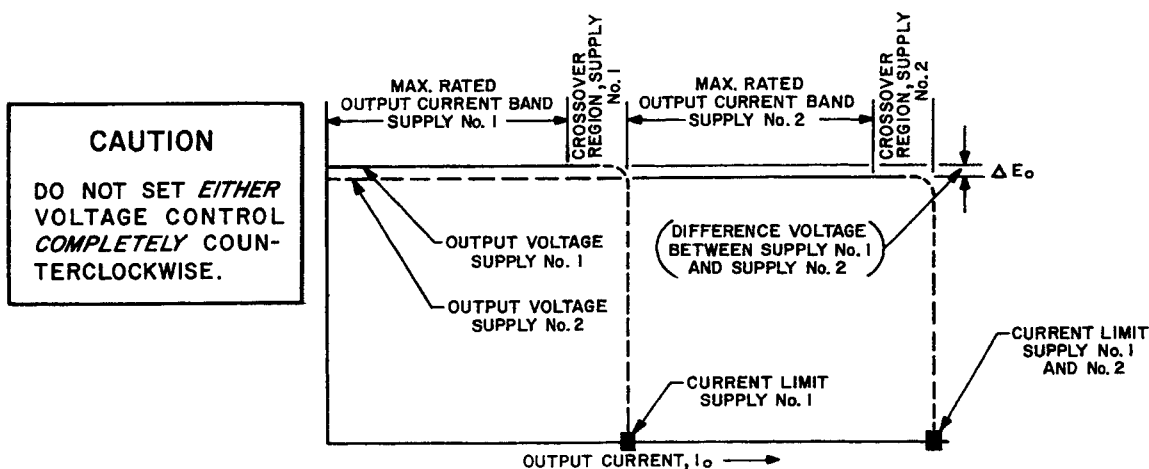

FIG. 3-12 "OUTPUT CHARACTERISTIC GRAPH OF TWO APH POWER SUPPLIES IN PARALLEL."
**NOTE:** The output graph (refer to FIG. 3-12) shows how the two power supplies operate in the parallel mode. As seen from FIG. 3-12, load variations should be confined to the stabilization region of SUPPLY #2, since there is an initial adjustment error ( $\Delta E_0$ ) between the two supplies. Load variations not confined to this area will include  $\Delta E_0$  as an additional Stabilization Error.